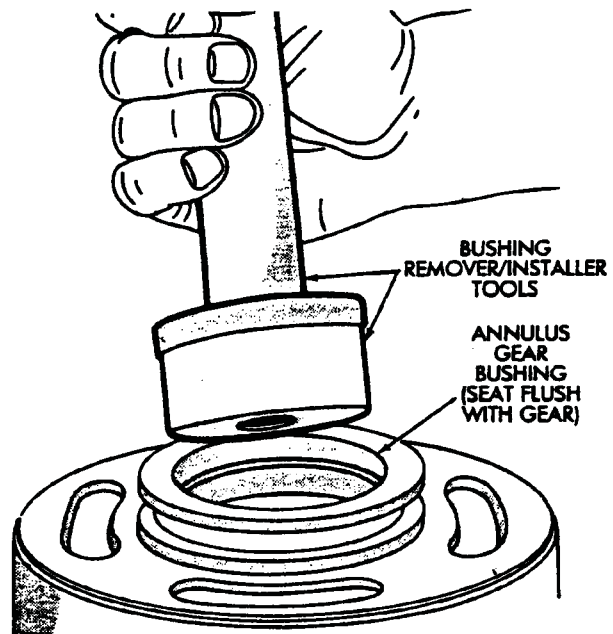

Fig. 4-36 Annulus Gear Bushing Replacement
20. Replace annulus gear bushing (Fig. 4-36). Seat new bushing flush with gear. **Be sure bushing and gear oil feed holes are aligned.**